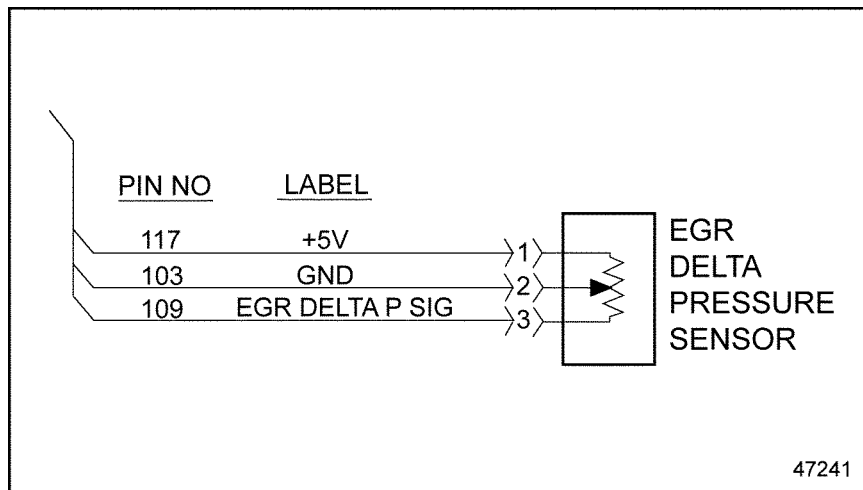

Figure 15-1 EGR Delta P Sensor
- [a] If the voltage is between 4.5 and 5.5 volts, repair the open circuit between pin 3 of the EGR Delta P Sensor harness connector and pin 109 of the 120-pin MCM connector. See Figure 15-1. Refer to section 15.3.1.1.